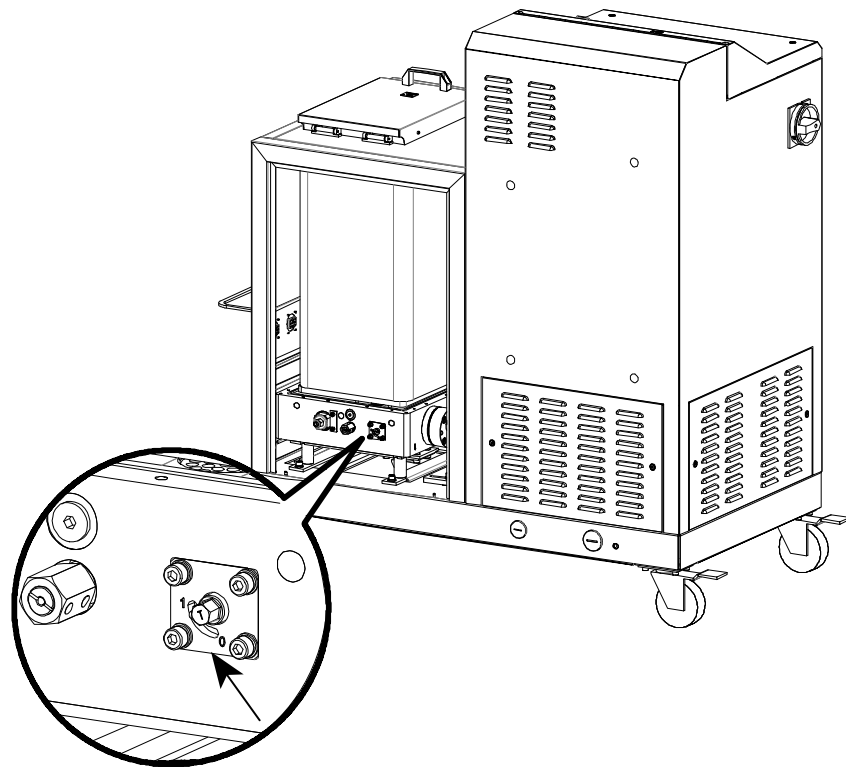

Figure 5-5 Location of the tank isolation valve
3. See Figure 5-5. Close the tank isolation valve.